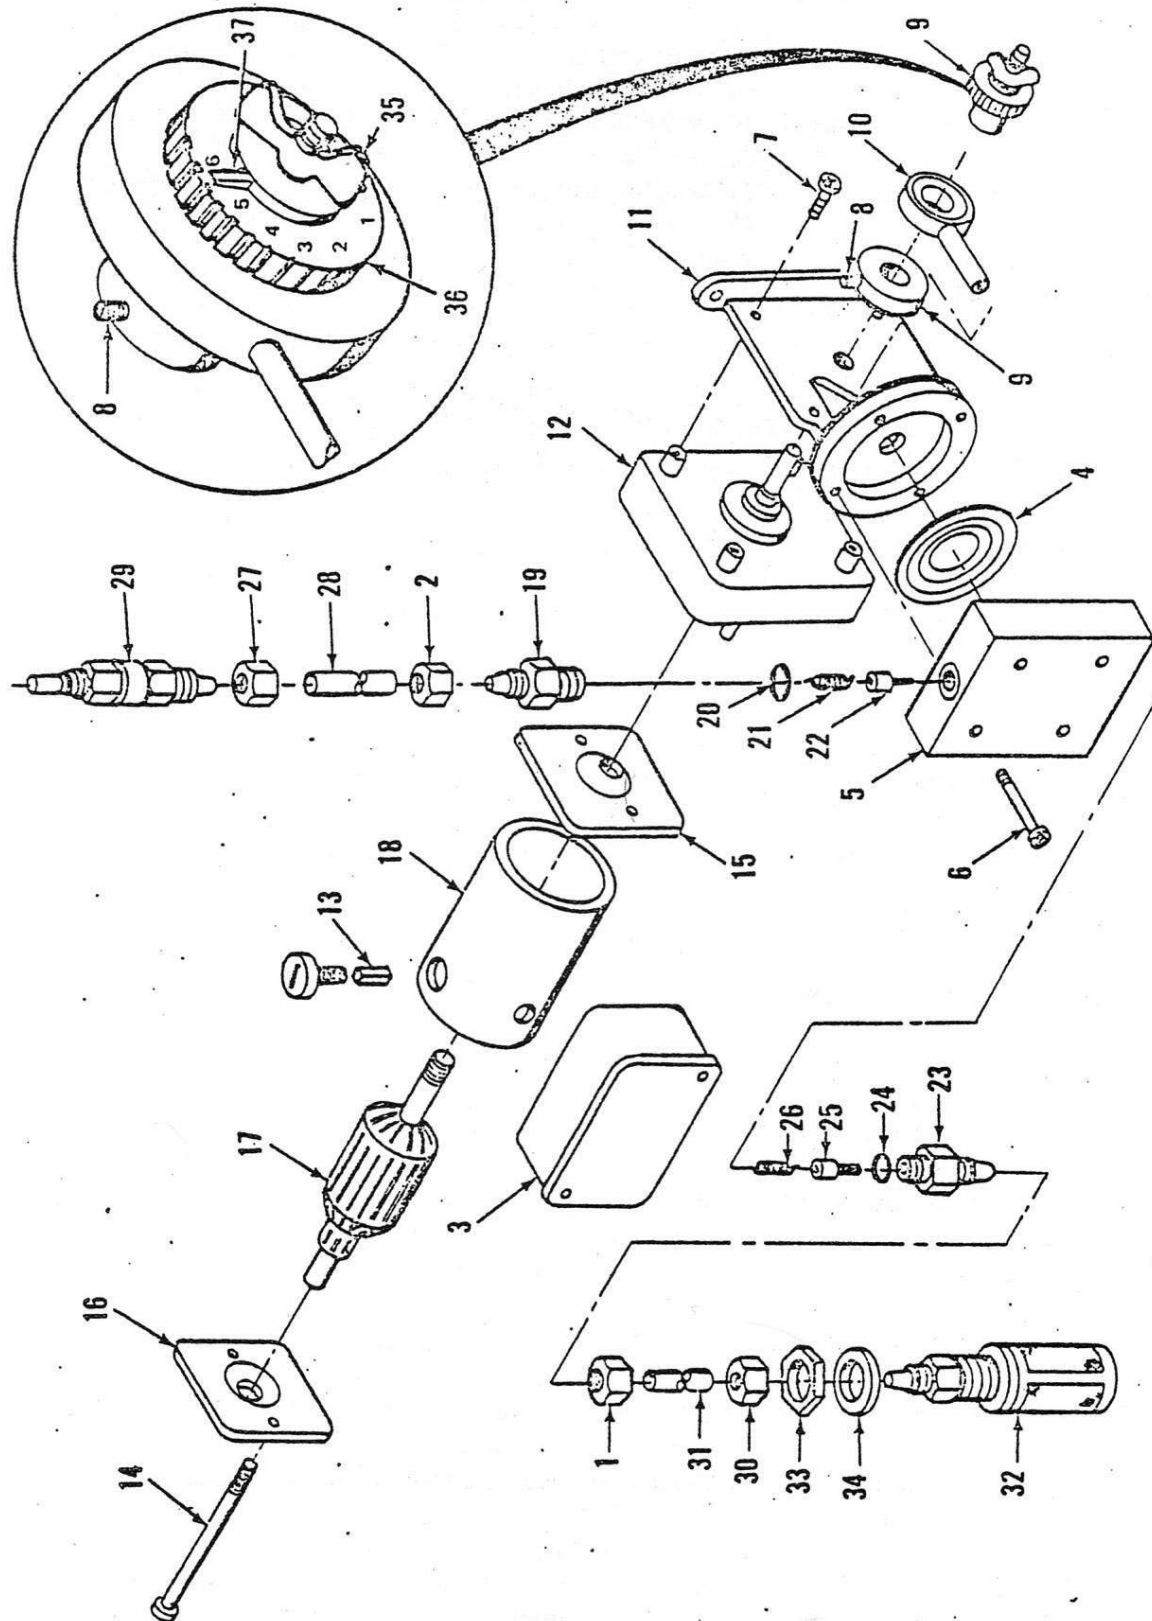

Figure 2-16 Foam Injector Pump
(1). Loosen the tube nuts (1 and 2, Figure 2-16) and remove the suction and discharge line assemblies.
(4). Position the pump so that the cover can be removed from the junction box (3). Remove the junction box cover and disconnect electrical leads. Remove the foam injection pump.
Legend for Figure 2-16. Foam Injector Pump